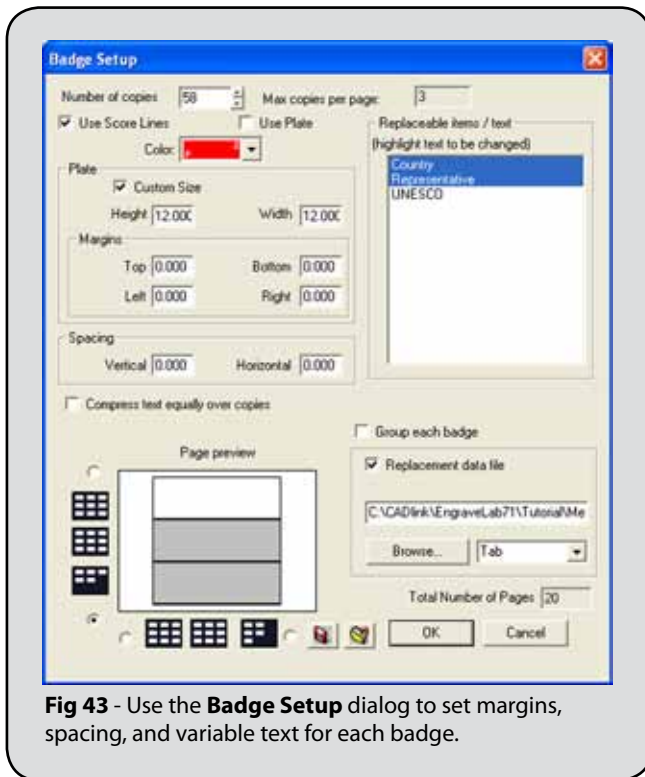

Fig 43 - Use the **Badge Setup** dialog to set margins, spacing, and variable text for each badge.
2. From the **Layout** menu, choose the **Badges** item. The **Badge Setup** dialog will open. (Fig. 43)